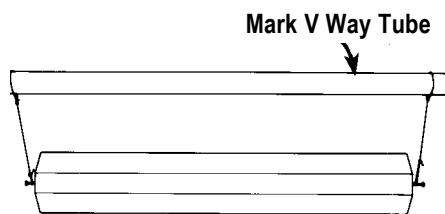

Figure C-41
2. To do this, drive a standard 8-penny nail straight into each center. Use suitable string to hang the stock in a level position from the front bench tube of the Mark V or a saw horse. The ends of the string should be looped around the nails. See Figure C-41. Gravity will pull the heavy side down. Use a jointer, bandsaw or hand plane to remove no more than 1/32" at a time from the heavy side until the stock remains stationary when rotated to three positions 90 degrees apart.